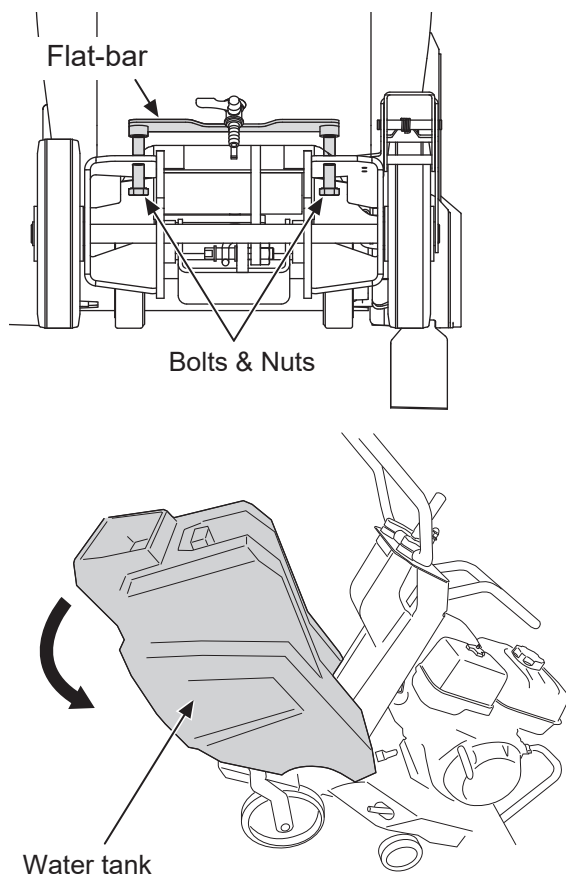

Fig. 7
- Loosen bolts and nuts blow the tank. And take off the flat-bar and water tank. (Fig. 7)
● How to use cutting depth gauge (Fig. 7)